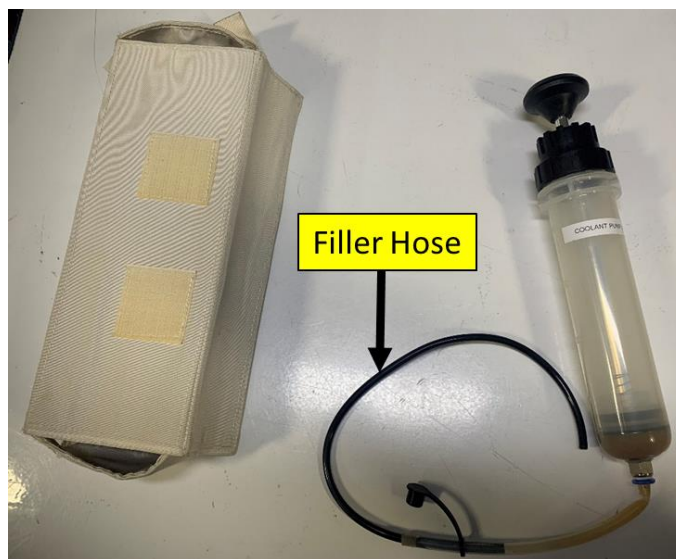

Figure 7: SPE Syringe and Filler Hose
- 3.4 Attach filler hose and extension (black tubing) to syringe and pull water into syringe from the alkaline water container (see Figure 7).